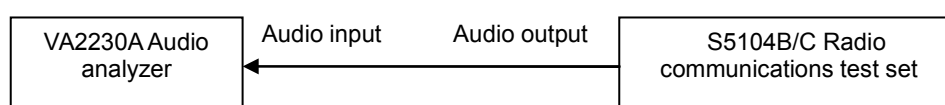

Fig. 6-13 Block diagram for audio signal generation characteristics test
1) As shown in Fig. 6-13, set S5104B/C to the audio generation mode, with the output frequency of 20 kHz, the amplitude of 200 mVrms, the waveform of sine, and the output impedance of high-Z; set the audio analyzer to the audio measurement mode, and record the measured frequency values in corresponding spaces of Table A.1;
1) As shown in Fig. 6-13, connect the test instrument, set S5104B/C to the audio generation mode, with the output frequency of 20 kHz and the amplitude to 10 mVrms; record the measured level value of the audio analyzer in corresponding space of Table A.1;